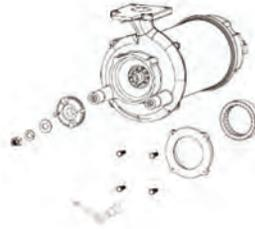

Fig. 2
- 2) Unscrew the nut off the shaft end with spanner or wrench. Remove the washer and spring washer, then cutter can be taken out easily. (Fig 2)